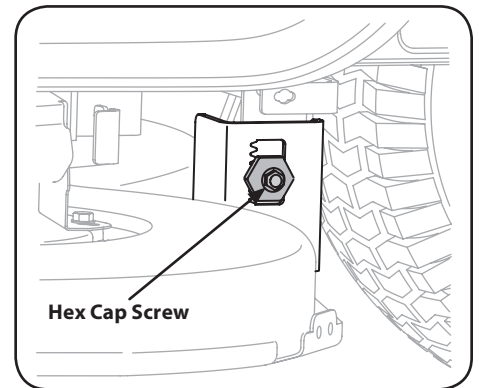

Figure 4-7
3. Loosen, but do NOT remove, the hex cap screw on the left deck hanger bracket. See Figure 4-7.